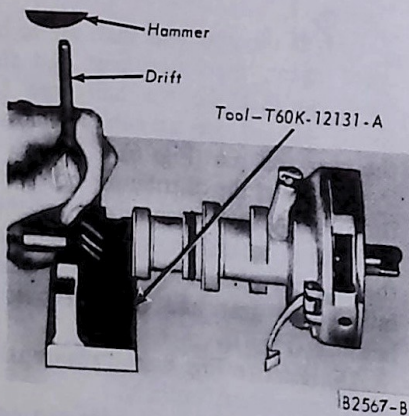

FIG. 6 Removing or Installing Typical Gear Pin
14. If the gear and shaft are to be used again, mark the gear and the shaft so that the pin holes can be easily aligned for assembly. Remove the gear roll pin (Fig. 6).
7. Remove the distributor from the press. Install the gear retaining pin (Fig. 6).
3. Remove the distributor from the press and remove the support tool. Install the gear retaining pin (Fig. 6).